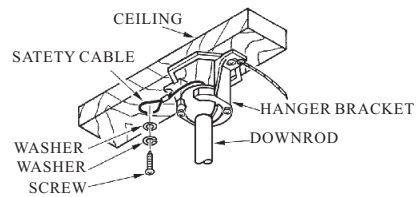

FIG. 11
3. Install the safety cable into the building structure. (See fig.11)